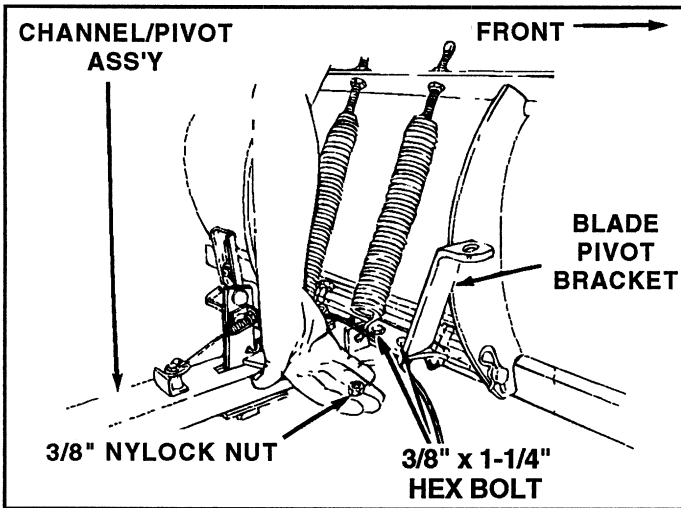

FIGURE 14
9. Assemble blade pivot bracket on to top right hand side of channel/pivot assembly. See figure 14. Assemble two 3/8" x 1-1/4" hex bolts down through bracket and plate and secure with two 3/8" nylock nuts underneath.